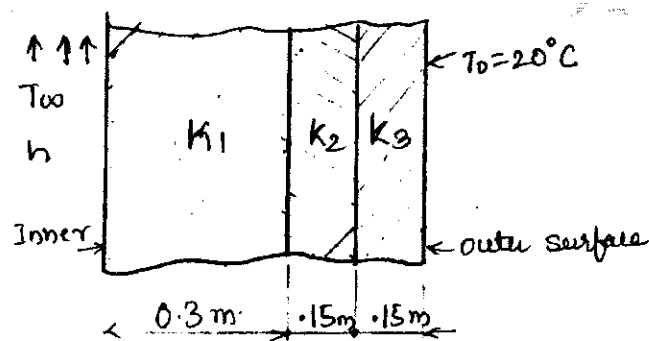

Fig. Q8 (b)
b. A composite wall consists of 3 materials shown in Fig. Q8 (b). The outer temperature is  $T_0 = 20^\circ\text{C}$ , determine the temperature distribution in the wall. Convection heat transfer takes place at inner surface with  $T_\infty = 800^\circ\text{C}$ . Take  $h = 25 \text{ W/m}^2\text{C}$ ,  $\text{Area} = 1 \text{ m}^2$ . (12 Marks)